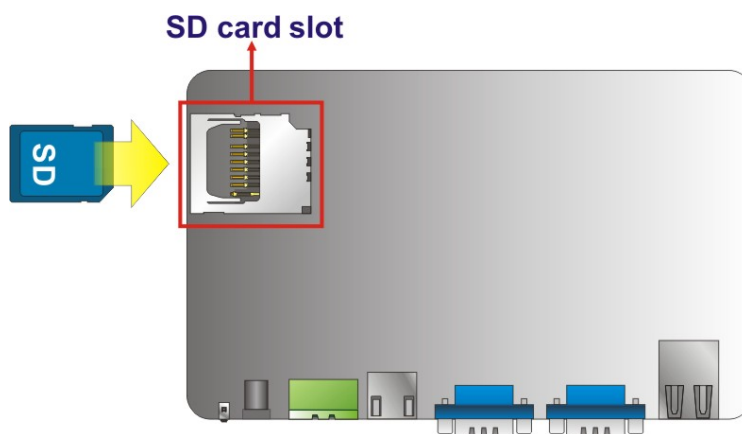

Figure 3-2: SD Card Installation
Step 2: Locate the SD card slot on the motherboard (Figure 3-2).
Step 3: Slide the SD card into the slot (Figure 3-2).